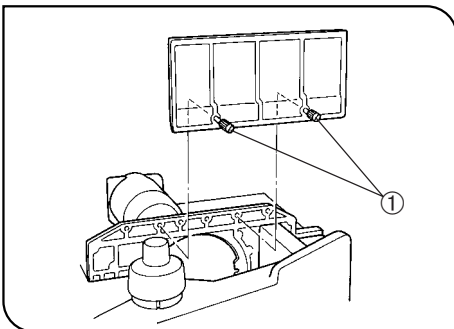

Fig. 30
**5 Mounting the Stage Extension Plate/Mechanical Stage** (Fig. 30)